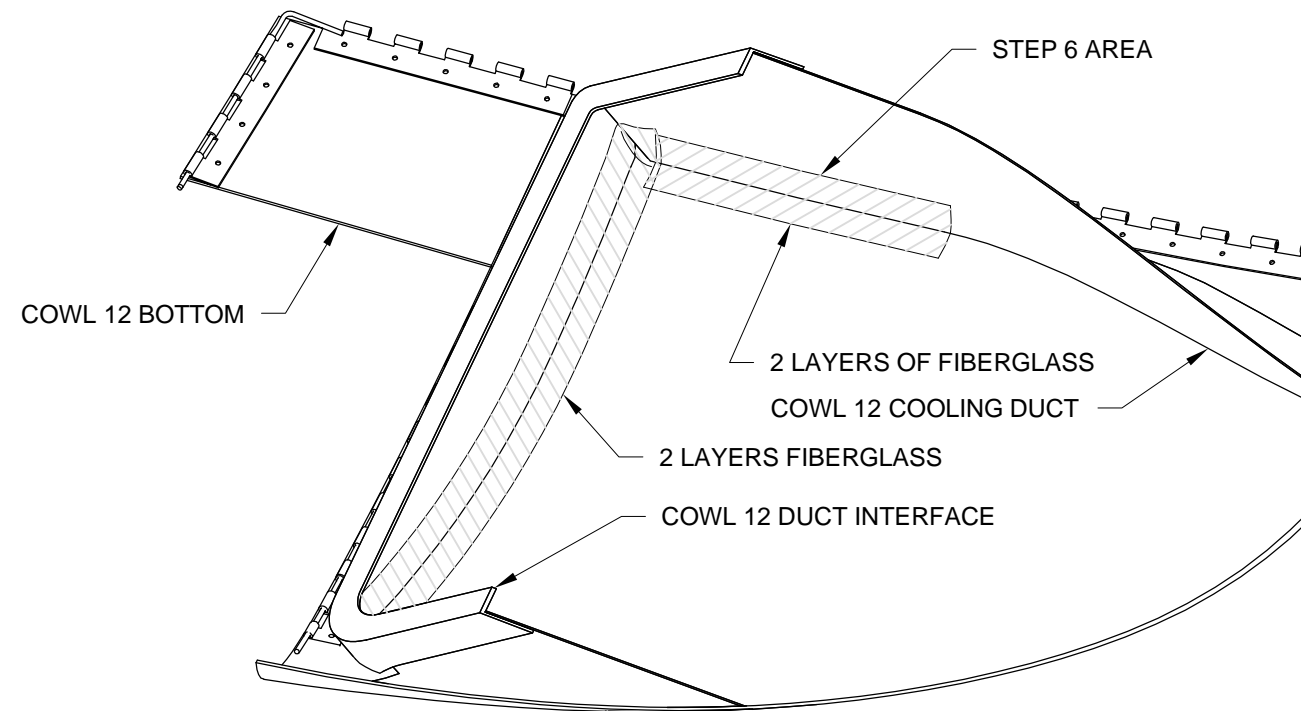

FIGURE 1: BONDING THE COOLING DUCT AND INTERFACE
Step 1: Cut VA-198 P-Seal material into lengths shown in Figure 1 to create the COWL 12 DUCT SEAL A, B & C.